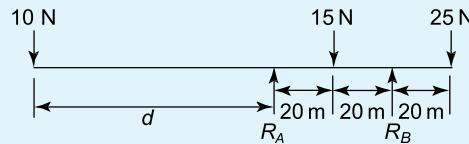

Figure 5.18
- For the force system shown in Figure 5.18, determine distance d for the forces R_A and R_B to be equal, assuming equilibrium conditions. [80 m]